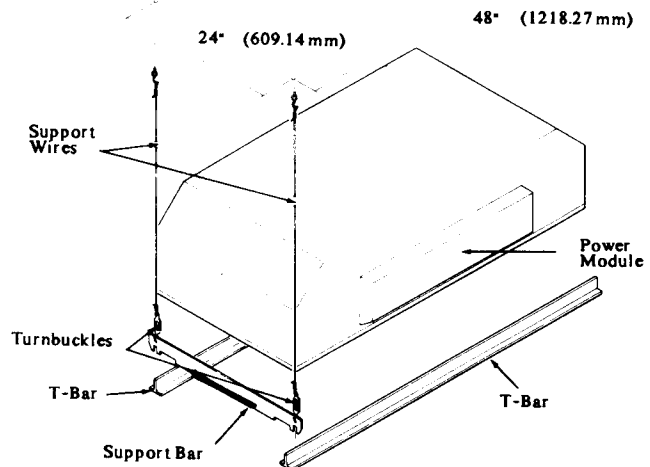

FIGURE 1
4. Unplug power module from air cleaner before attempting to complete removal. Unscrew and remove power module (See Fig. 1). Hint: Tilt power module away from air cleaner to facilitate removal.
1. Attach four 12 gauge galvanized steel support wires to true ceiling at location shown in Fig. 1. Twist each wire at least four times to provide safe support for the air cleaner. The free end of each wire should extend six inches or more below the bottom of the T-bars.
2. At the end of each opening, set a support bar across the T-bars. The "J" shaped portion of the support bars should be oriented so the hook side of the "J" is toward the opening (not toward the adjacent T-bars). See Fig. 1.
4. Hook the turnbuckles to the support bars and then secure the support wires to the eyes of the turnbuckles (see Fig. 1). Twist the wire at least four times.